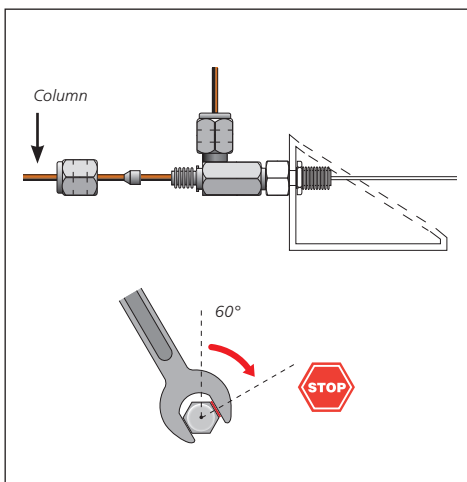

Figure 6.
1. Slide the SilTite™ nut and ferrule onto the outlet of the capillary column as shown in Figure 6. Be sure to take note of the orientation of the ferrule.
2. Place the end of the column onto the flat face of the tee and slide the nut and ferrule onto the male thread. See Figure 6.